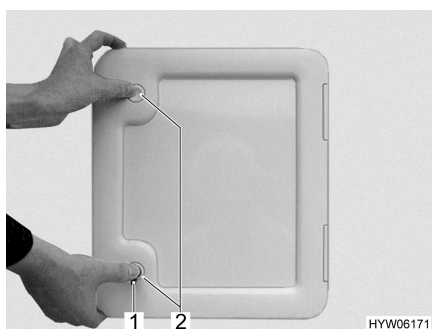
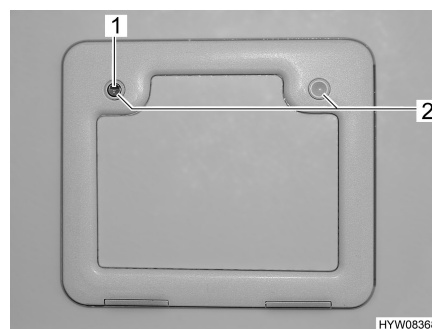

Fig. 18 Flap for toilet cassette
Fig. 19 Flap for toilet cassette (alternative)
- Insert key into locking cylinder (Fig. 18,1 or Fig. 19,1) of the push-button lock and turn a quarter turn.
- Press both push-button locks (Fig. 18,2 or Fig. 19,2) simultaneously with your thumb and open the flap for the toilet cassette.
- Insert key into locking cylinder (Fig. 18,1 or Fig. 19,1) and turn a quarter turn.